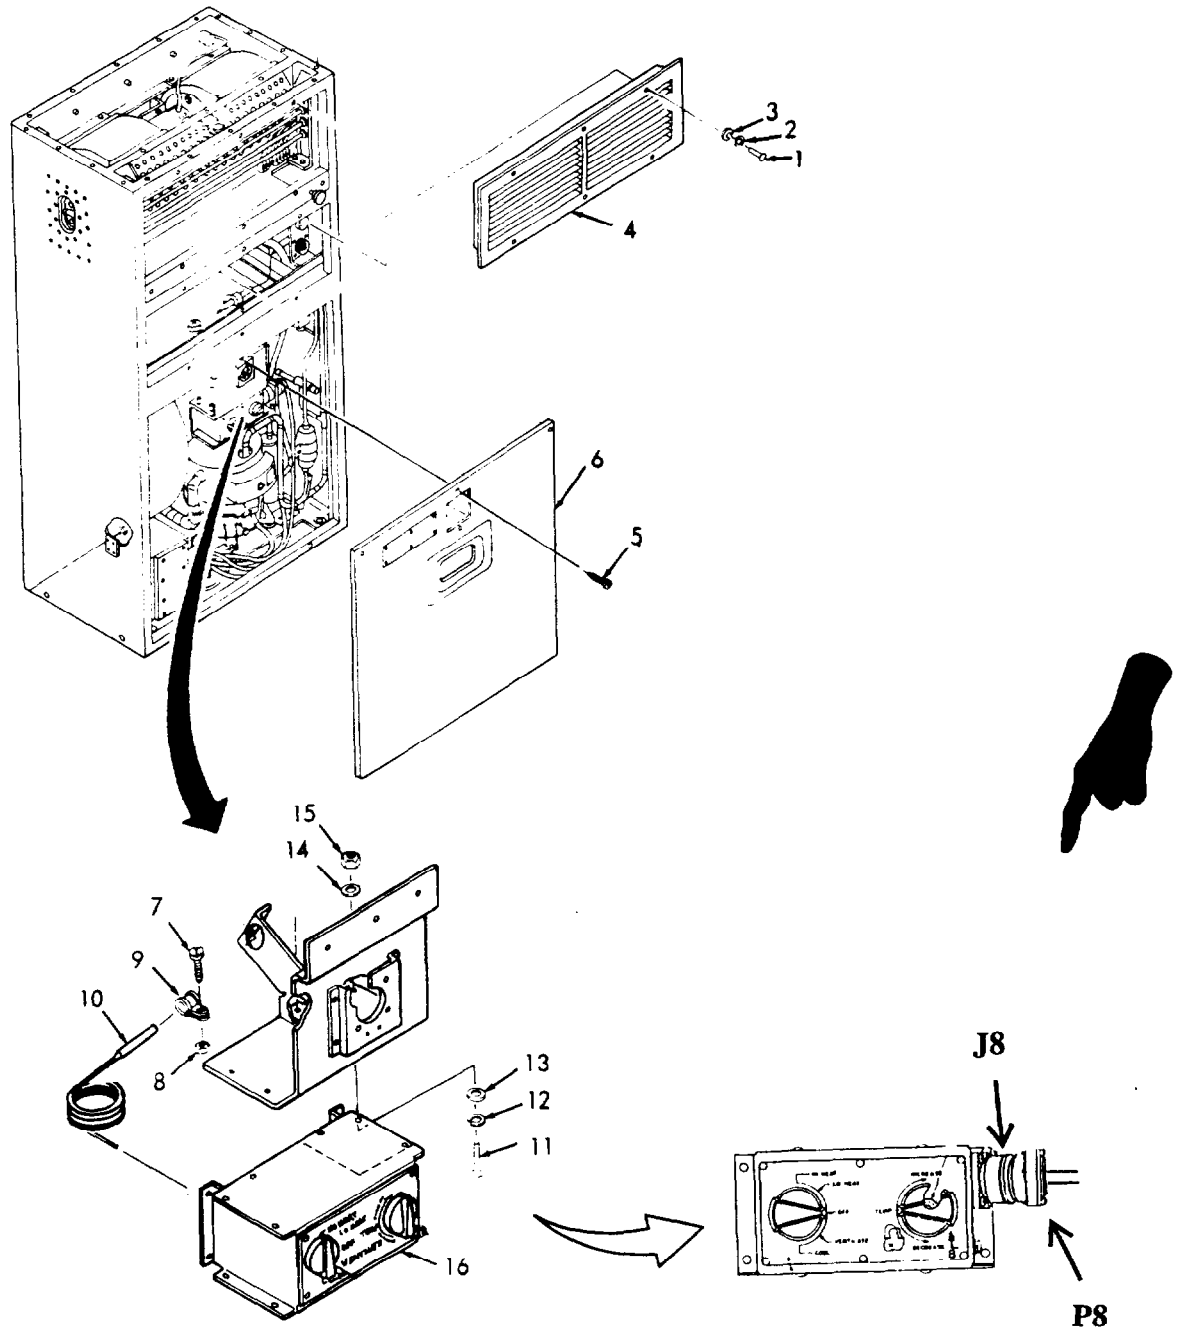

Figure 4-1. Remote Mounting of Control Module.
4-7. REMOTE MOUNTING OF CONTROL MODULE. This paragraph is applicable only when the control module is to be remote mounted. If the control module is to be removed from the unit and installed in a remote location, follow instructions of this paragraph. (Refer to Figure 4-1).
Fabrication of interconnecting remote control cable described in paragraph 4-7p will apply except that it will be connected to the J20 connector on the unit in place of the J8 connector on block off. (J8 is on Figure 4-1 and J20 is on Figure 5-1)
- (2) Remove plastic dust cap from connectors J20. Store cap in a safe place for possible future use.
- (3) Connect P8 connector and harness to J19 connector and harness. (P8 is on Figure 4-1)
- f. Reinstall lower front panel (6).